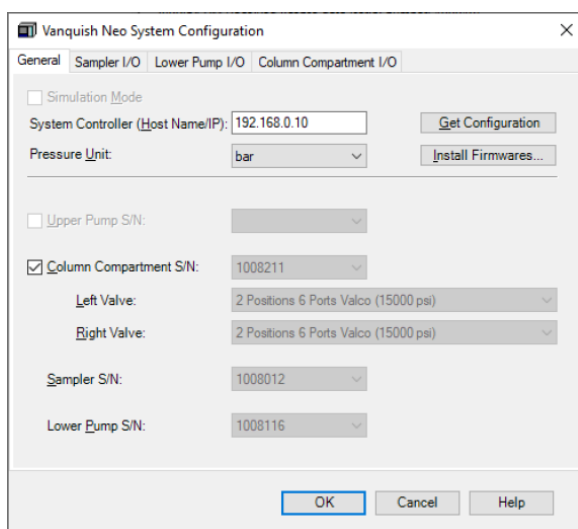

Figure 4: Vanquish Neo system and connected modules
- After the IP address is entered and the system was successfully connected to the instrument control PC, the configured modules of the Vanquish Neo system are displayed (Figure 4).